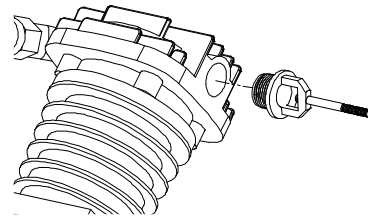
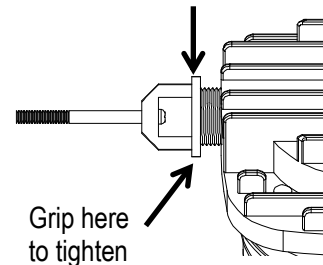

Figure 3
Figure 4
4. Screw base into air compressor inlet as shown. Tighten with appropriate tool on specified location. (Figure 3 & Figure 4)